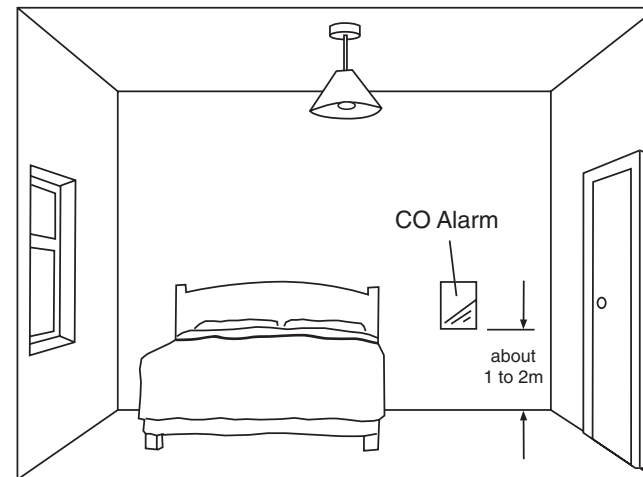

Figure 4. Location in bedroom & rooms remote from the appliance (i.e. at breathing level)
3.31 If locating the CO alarm in a bedroom or in rooms remote from a fuel burning appliance (see figure 4)